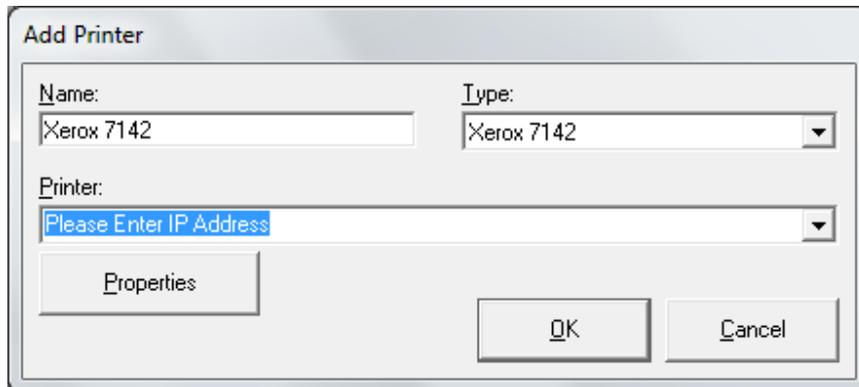

Fig 3-2
1. From the Manage Printers interface, click [New] to open the Add Printer window (Fig 3-2).